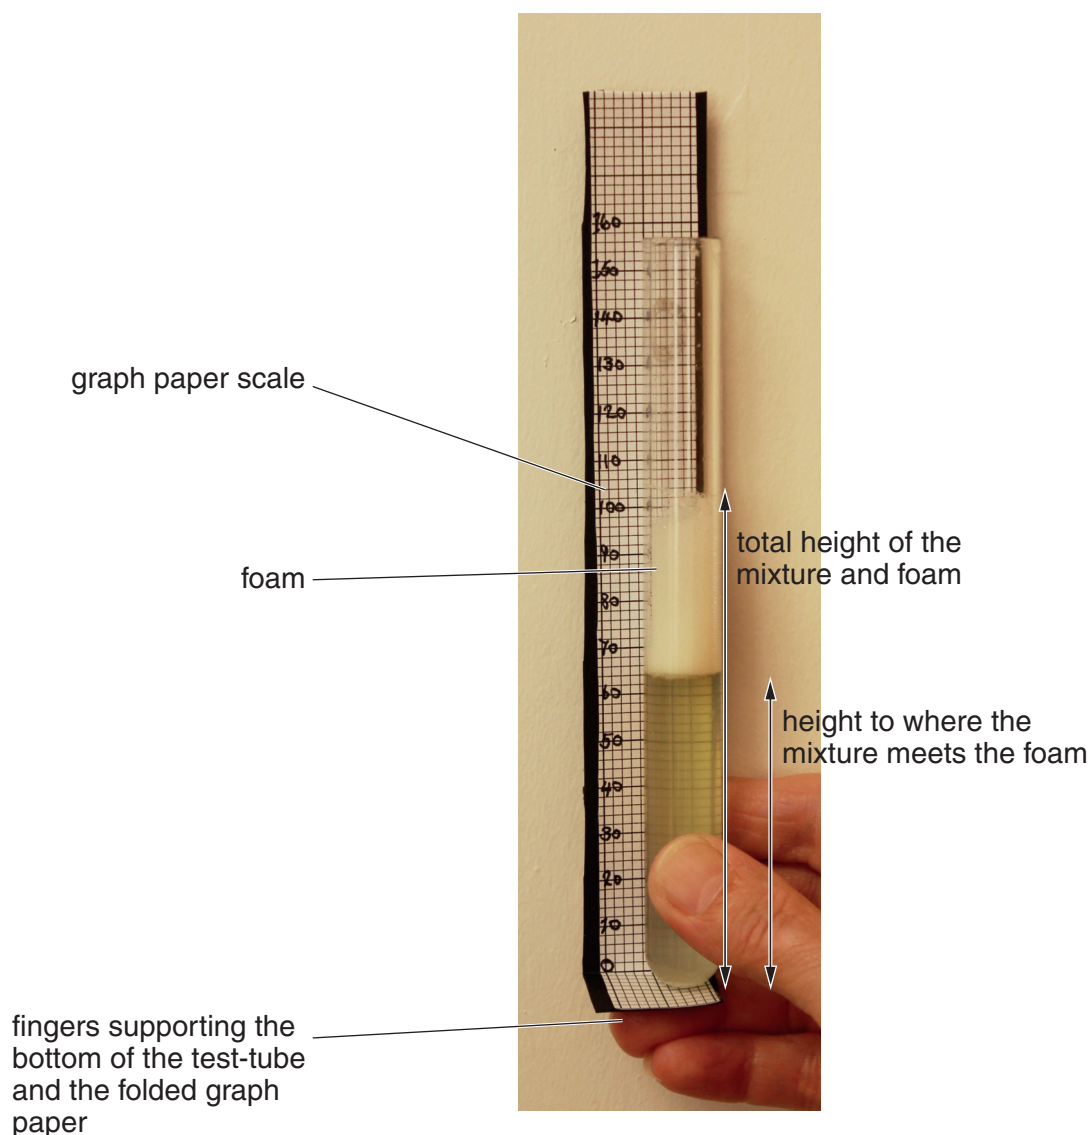

Fig. 1.2
You are required to measure the release of oxygen by measuring the total height of the mixture and the foam **and** the height to where the mixture meets the foam, as shown in **Fig. 1.2**.
You are provided with a graph paper scale on a piece of card. **Fig. 1.2** shows how to use the graph paper scale to measure the total height of the mixture and foam **and** the height to where the mixture meets the foam.
2. Fold the graph paper scale along one of the thicker lines and label this line 0 as shown in **Fig. 1.2**.
*You may find it useful to label each 10 mm as shown on **Fig. 1.2**.*
7. Hold the test-tube as shown in Fig. 1.2.